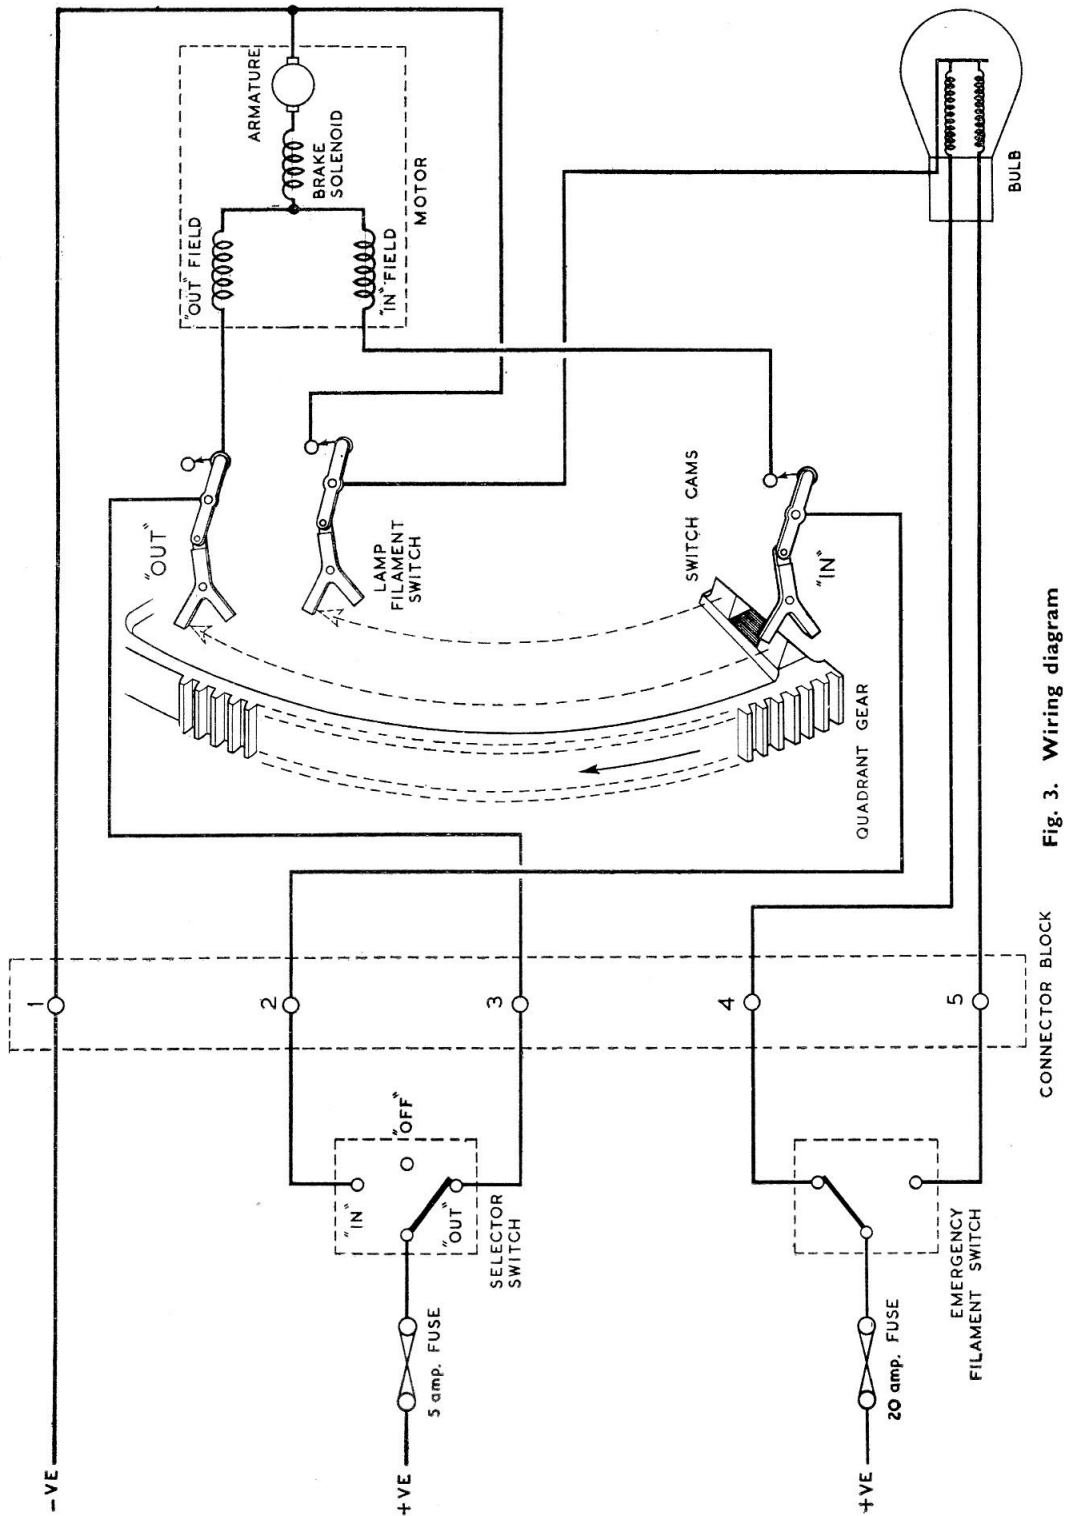

Fig. 3. Wiring diagram
23. With a 24-volt d.c. supply connected, and the selector switch set to OUT (*fig. 3*), the "out" field coils of the motor and brake solenoid coil will be energized, thus allowing the armature to rotate and move the lamp towards the extended position.